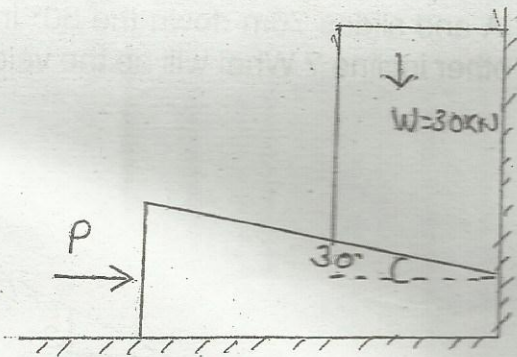

Fig. 5
5. a) Determine the minimum force required to move the wedge shown in the fig. 5. The coefficient of friction is 0.25 for all contact surfaces.